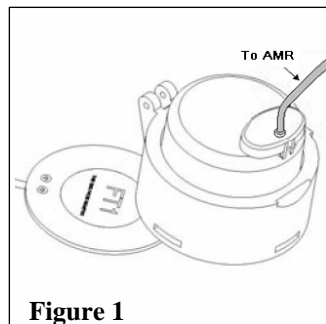

Figure 1
**FT1** With the register installed in the register box1, place the FT1 with the label facing up (shown in Figure 1) directly beneath the register. Slide the FT1 until it lies flat against the bottom of the register. The wire extending from the FT1 should be routed in the slot provided in the base of the register box.